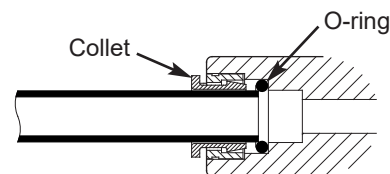

FIG. 13
**NOTE:** A common mistake is to stop pushing the tube when it hits the internal metal collar or o-ring (See Fig. 13). Make sure to push past these, until at least 5/8" (16 mm) of tube is inserted.